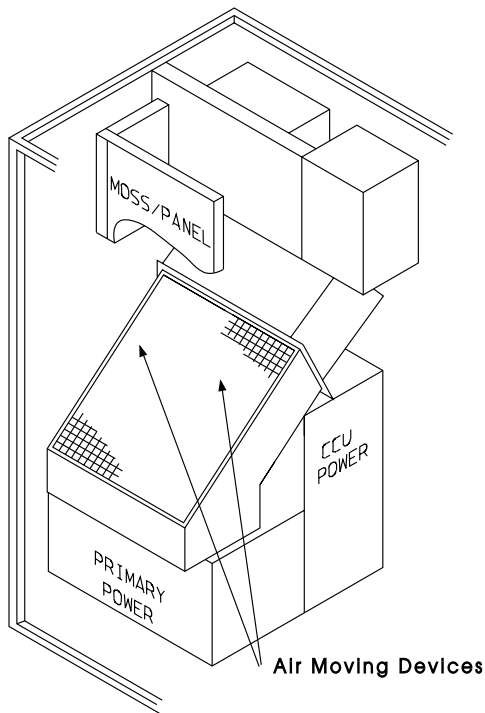
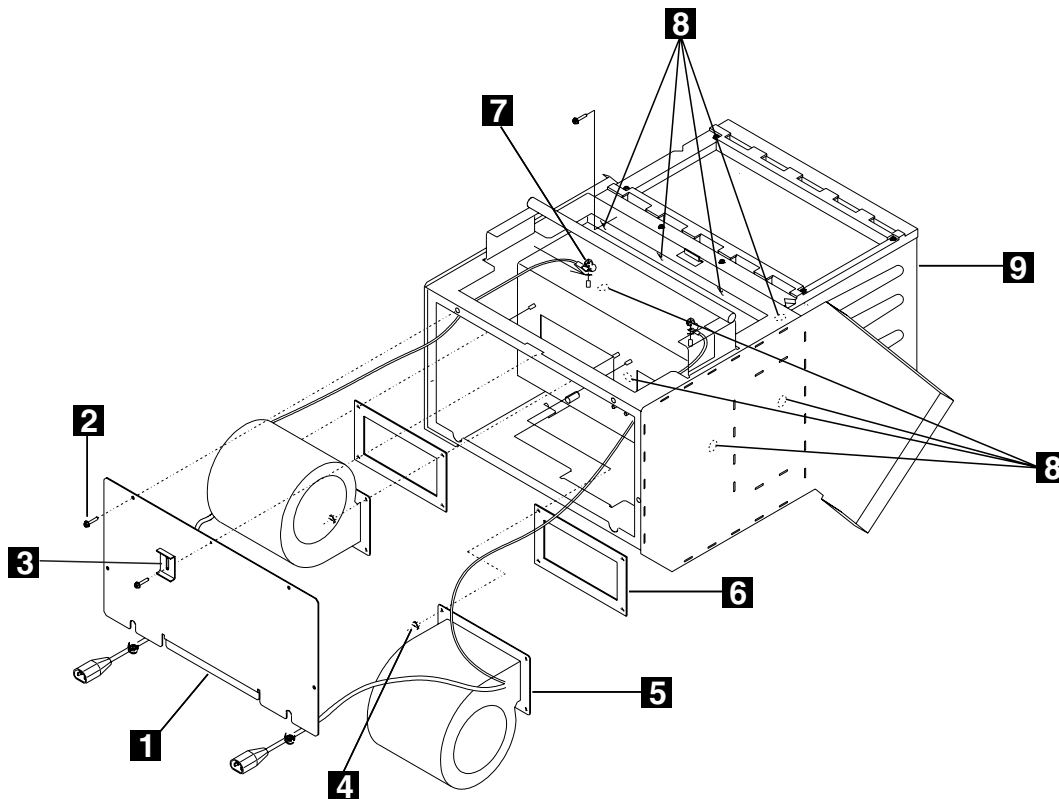

Figure 4-162. SAC air moving devices Unit Location
Figure 4-163. Air Moving Device Unit Removal
9. Refer to Figure 4-162 and to Figure 4-163 and remove the air moving devices as follows:
2. Refer to Figure 4-163 on page 4-173. Do the following :